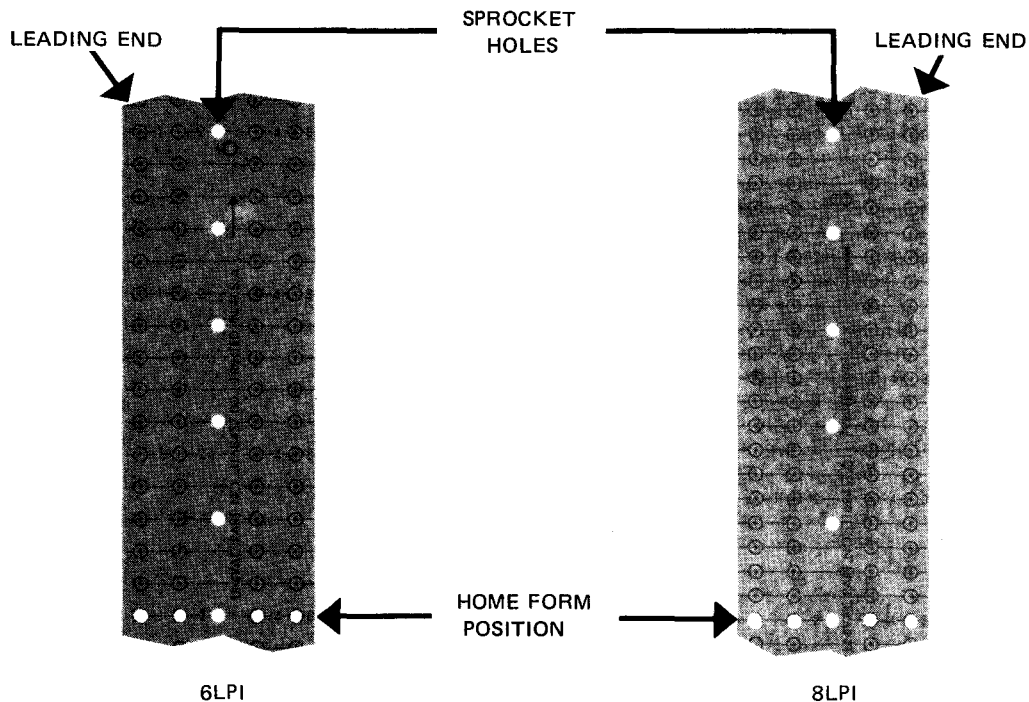

Figure 5-7. 0768 Printer Subsystem, Forms Control Tapes
The length of the forms control tape is between 10 and 22 inches and is equal to the form length or to a multiple of form length. Figure 5-7 illustrates sections of a 6-lpi and an 8-lpi forms control tape loop. Channel 1 is on the left side of the tape and channel 4 is on the right side. The evenly spaced perforations running vertically in the center of the tape are sprocket holes that ensure proper tape feeding and alignment. The arrow printed on the tape indicates the direction the tape travels when it is installed. Also, four columns of small circles are printed on the tape as an aid to perforation. The cross in the center of each of these circles assists in centering the perforations. The numbers (1, 2, 4, and 8) to the right of each track designate the channel code position to which each is related. The codes are listed in Table 5-3.
2. Cut the leading end of the tape (Figure 5-7) so that the end is about 1/4 inch above a sprocket hole: